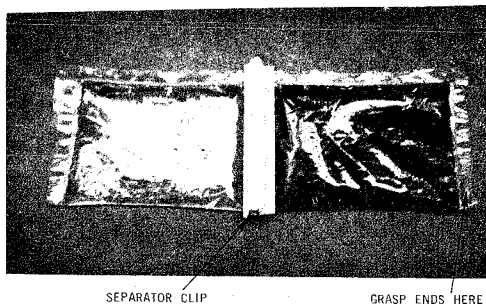

Fig. 9 — Encapsulation Compound
6.04 Remove the separator clip on the encapsulation compound by grasping the outer ends of the plastic bag and giving a quick firm snap. Fig. 9.